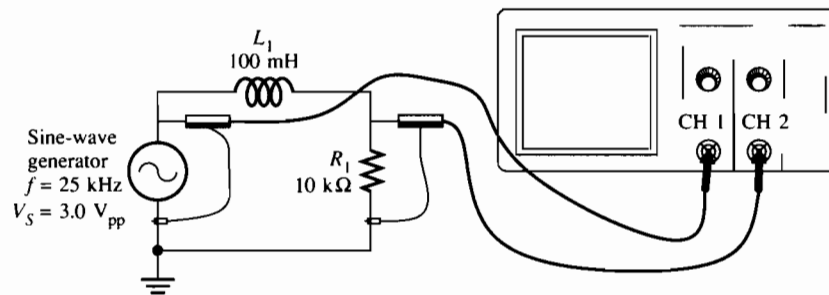

Figure 25-3
- (a) Connect the oscilloscope so that channel 1 is across the generator and channel 2 is across the resistor. (See Figure 25-3.) Obtain a stable display showing between one and two cycles while viewing channel 1 (V_S). The scope should *not* be triggered using composite (vertical mode) triggering.